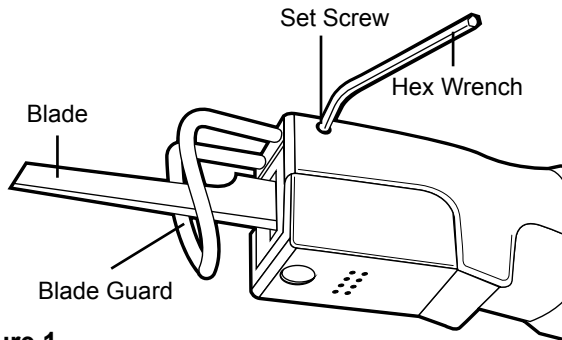

Figure 1
2. To remove the Blade Guard, use the Wrench (31) to loosen the two Set Screws (24) on the outside of the tool. When replacing the Blade Guard, place it in the slots and tighten the Set Screws (24). See Figure 1, above.